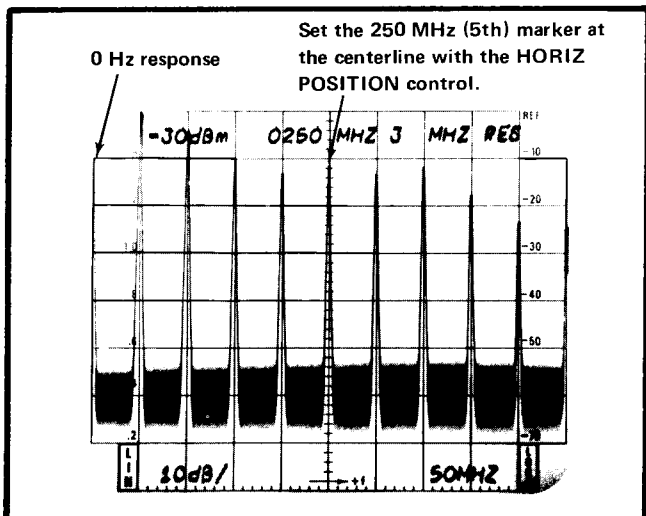

Fig. 2-3. Calibrating the sweep span.
c. With the CAL OUT signal applied to the RF INPUT, decrease the FREQ SPAN/DIV to 50 MHz and tune the 5th marker (250 MHz) to the center graticule line (see Fig. 2-3).
d. Calibrate the frequency span to 50 MHz/DIV by adjusting the SWP CAL for 1 marker/division. It may be necessary to keep the 250 MHz marker centered with the frequency TUNING control as the sweep is calibrated. Final display should resemble that illustrated in Fig. 2-3.